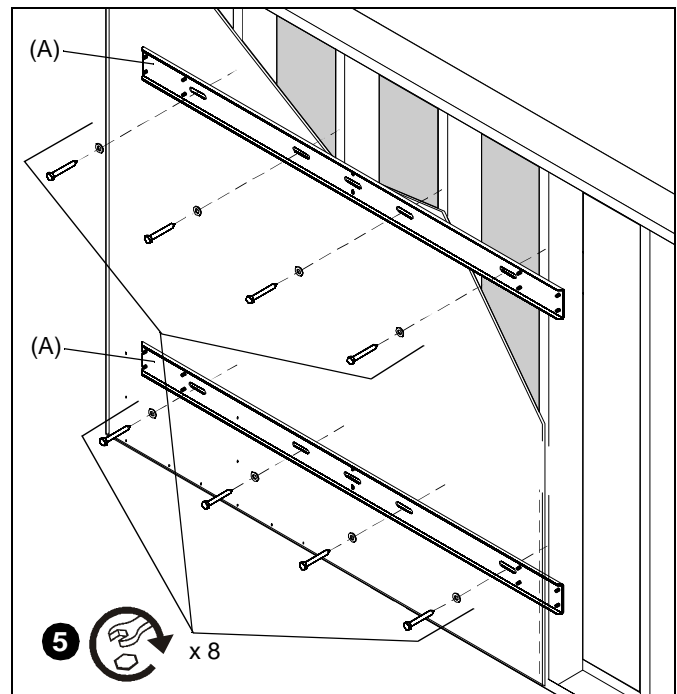

Figure 3
9. Secure horizontal brackets (A) to studs using appropriate hardware for mounting surface (not provided). (See Figure 3)